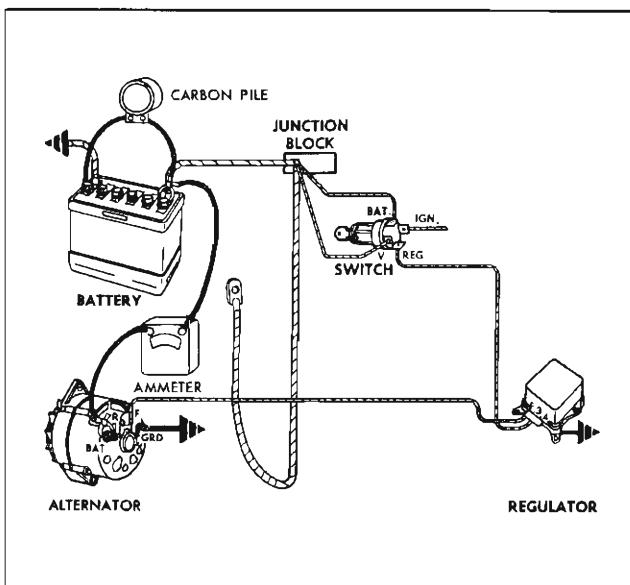

Fig. 11-25 Ammeter Measuring Output
- Disconnect ammeter lead from alternator output lead and connect ammeter lead to positive terminal of battery (Fig. 11-25).